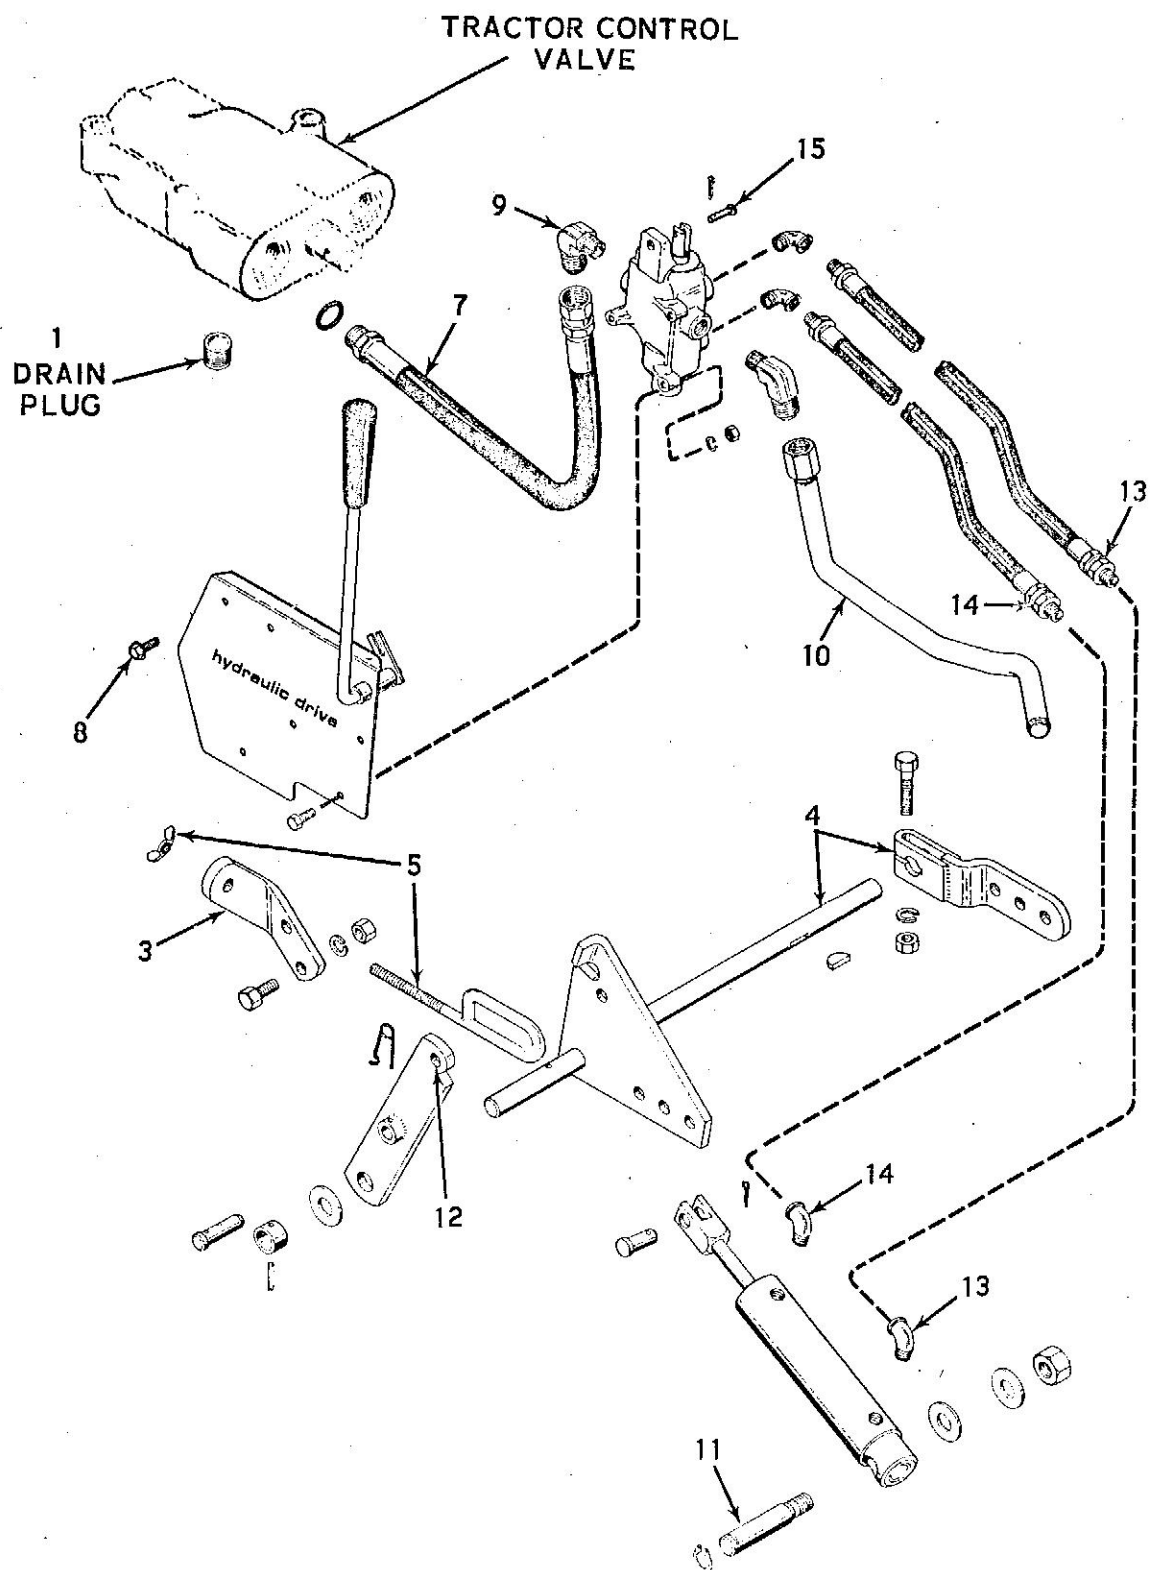

Figure 5. Exploded View, Hydraulic Lift Assembly
1. Drain the hydraulic reservoir into a clean pan of at least 6 quarts capacity. The drain plug is located at the bottom side of the tractor control valve. See Figure 5.